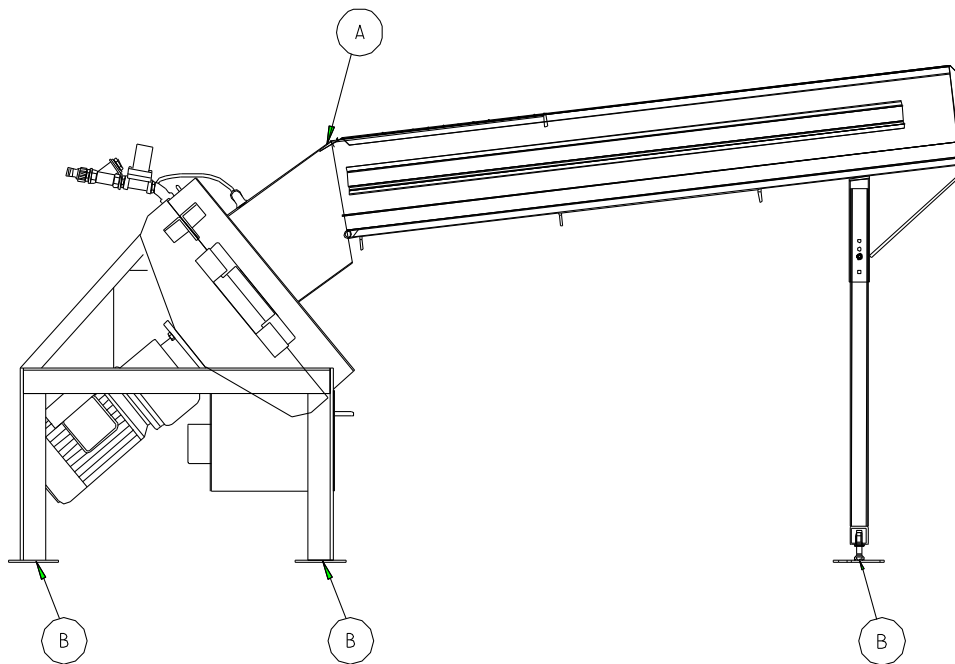

Figure 8: Assembly of BT 1300 and 1950
- III. Fasten the ball tray to the washer body with the two enclosed screws.. See Figure 8 at (A).
- IV. Screw all six feet to the foundation. See Figure 8: Assembly of BT 1300 and 1950 at (B).